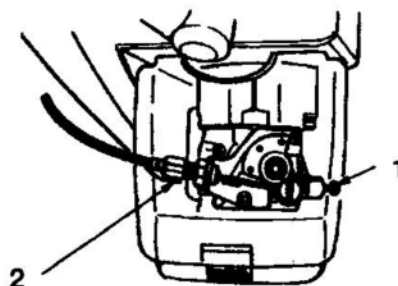

FIG 33B
1. The idling screw adjustment is accessible without removing the air filter cover. See Fig. 12 on Page 7. To increase engine idle speed, turn IDLE SCREW (#1) clockwise (Refer Fig.33B). To decrease engine speed, turn IDLE SCREW counter (anti) clockwise. Throttle trigger to be in idle position.